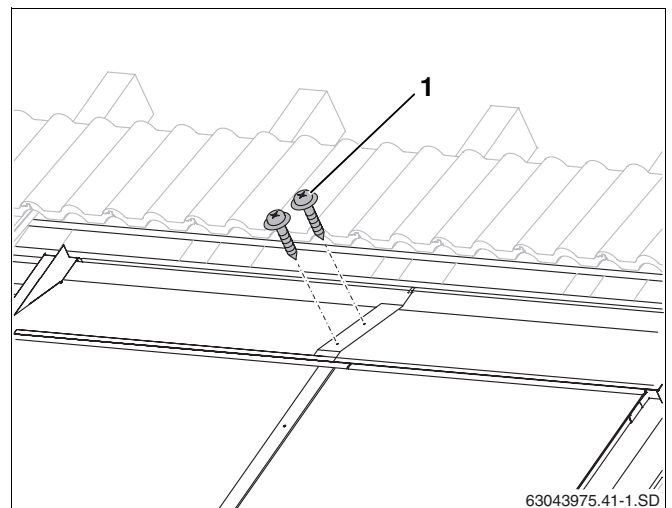

Fig. 57 Joining upper facing collectors with screws
- Fasten each collector overlap with two 25 mm long plumbing screws (Fig. 57, **Item 1**) (provided).